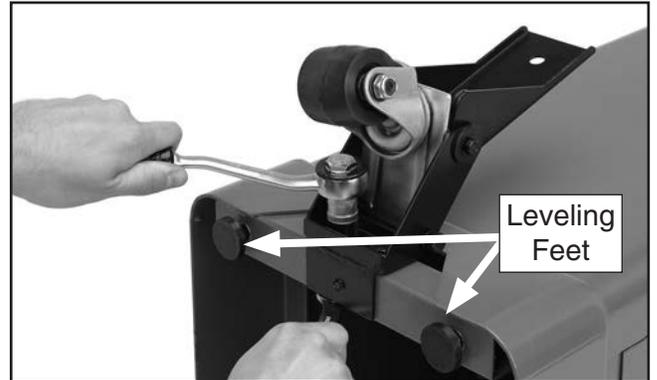

Figure 12. Installing locking foot pedal.
4. Install the M10-1.5 x 55 hex bolts, flat washers, and hex nuts through the front of the locking foot pedal assembly as shown in **Figure 12**.
7. Level the cabinet front-to-back and side-to-side by adjusting the leveling feet (see **Figure 12**).